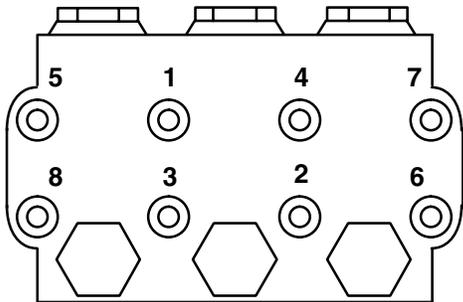

Fig. 3
8. Install the capscrews and washers finger tight. Torque the screws to 21.7 ft-lb (29 N•m) following the tightening pattern in Fig. 3. Uneven tightening can cause the manifold to bind or jam.